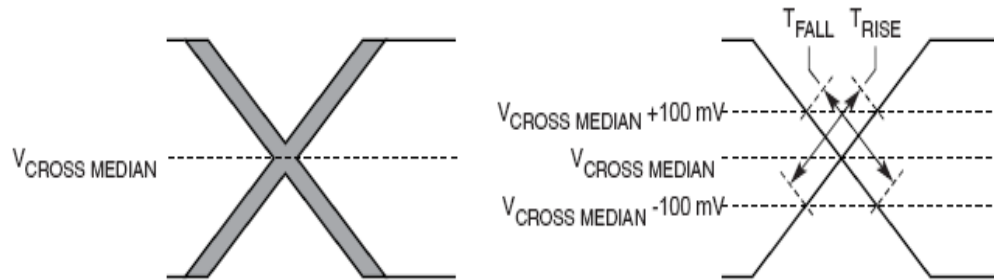

Figure 48. Single-Ended Measurement Points for Rise and Fall Time Matching
6. Matching applies to rising edge for $\text{SD}n_ \text{REF_CLK}$ and falling edge rate for $\overline{\text{SD}n_ \text{REF_CLK}}$. It is measured using a 200 mV window centered on the median cross point where $\text{SD}n_ \text{REF_CLK}$ rising meets $\overline{\text{SD}n_ \text{REF_CLK}}$ falling. The median cross point is used to calculate the voltage thresholds that the oscilloscope uses for the edge rate calculations. The rise edge rate of $\text{SD}n_ \text{REF_CLK}$ should be compared to the fall edge rate of $\overline{\text{SD}n_ \text{REF_CLK}}$, the maximum allowed difference should not exceed 20% of the slowest edge rate. See Figure 48.